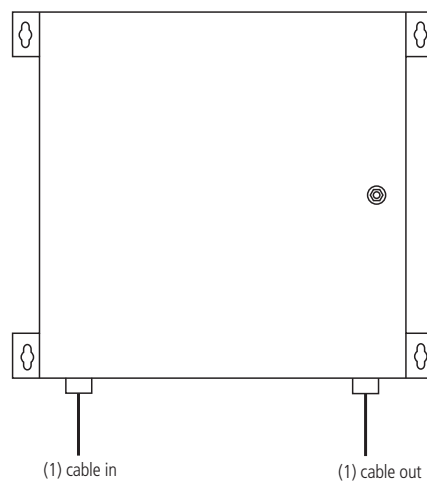

Figure 2. One cable in/one out configuration.
3. Install the (2) grommets (included) to the bottom of the enclosure. Remove the large plastic nut from the grommet and slide the threaded part of the grommet up the hole. Use the plastic nut inside the enclosure to secure the grommet. (See Figure 2).